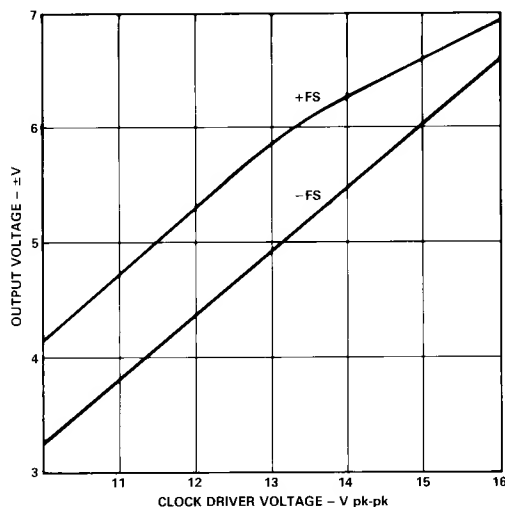

Figure 21. Output Voltage Swing ( $\pm V$ ) vs. Clock Driver Voltage (V pk-pk)
**Clock Driver Voltage Considerations.** The rated performance of the AD208 will remain unaffected for clock driver voltages in the 14.25 V pk-pk to 15.75 V pk-pk range. Voltage swings below 14.25 V pk-pk will result primarily in the derating of the output voltage and isolated power supply voltage specifications as shown in Figures 21 and 22, respectively.